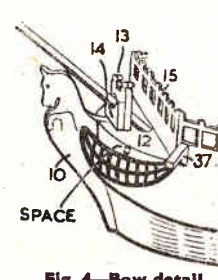

Fig. 4—Bow detail
The fitting of the bow parts 10 to 15 is shown in Fig. 4. The figurehead No. 10 is glued in the slot of the hull, and then the end of the bulwark strip drawn round to it and glued there. The piece 12 forms a platform in front of 4, and on this is 13 and 14, forming the
step for the bowsprit. This bowsprit is a tapering rod 3 1/2 ins. long. The inboard end is cut at an angle to rest on piece 14 and pass through piece 13 (see Fig. 4). The outer end of the bowsprit is a piece of stiff wire which can be added now or left until the standing rigging lines are added. By the way, piece 12 is formed of two 1/4 in. pieces glued together, but if you have an odd piece of 1/2 in. wood, then you can do it from a single part.
A tiny lantern can be raised on wire fixed above the stern slope, seen in the finished model picture, whilst a wheel and other incidentals are added as indicated. Note particularly at the bow, the projecting cathead (37). This is a shaped bracket piece glued on edge with the longer surface at right-angles to the hull. It is seen in Fig. 4.